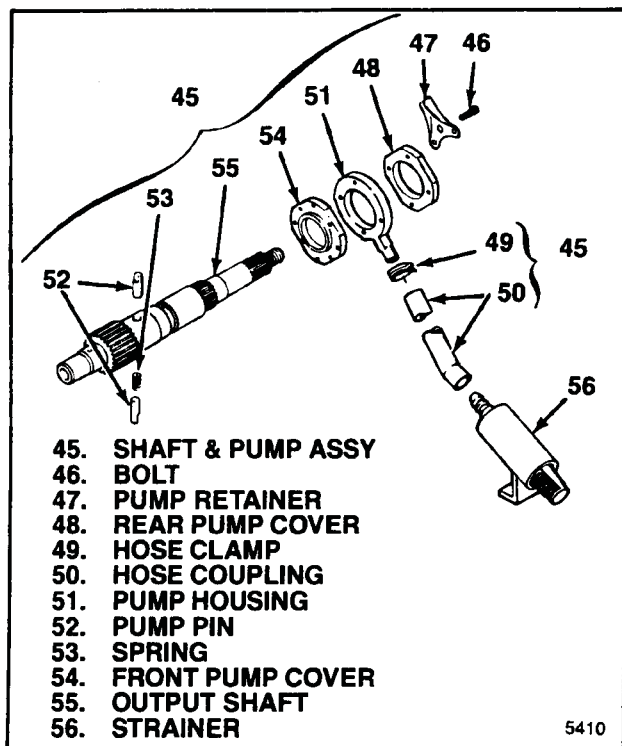

Figure 3-7. Pump Parts
3-12. REMOVAL OF OIL PUMP PARTS. From remaining transfer case assembly (45 through 111) disassemble shaft and pump assembly (45) (see figure 3-7):
- Remove four bolts (46) and retainer (47). Slide rear pump cover (48) off output shaft (55).
- Loosen hose clamp (49) and separate hose coupling (50) from pump housing (51). Slide pump housing off output shaft (55).
- Remove hose clamp (49), hose coupling (50) and strainer (56).
- Remove two pump pins (52) and spring (53) from output shaft (55).
- Slide front pump cover (54) off output shaft (55) and remove output shaft.